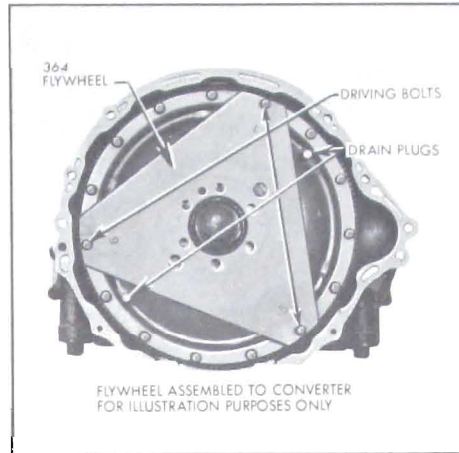

Figure 5-132—Location of Driving Bolt Holes
17. Refer to Figure 5-132 to determine which three bolt holes to leave empty for later installation of flywheel to pump driving bolts.